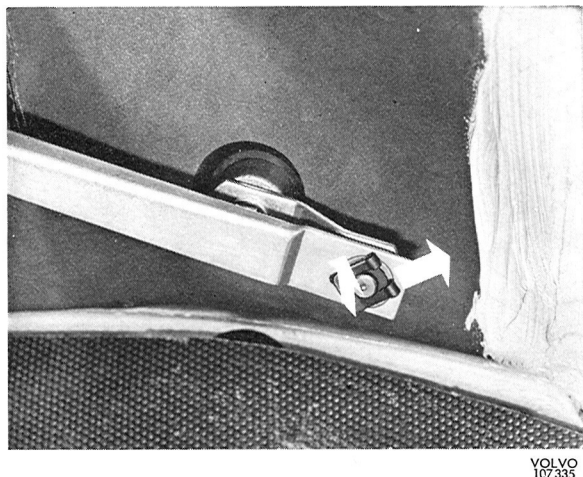

Fig. 3-138. Removing lock
1. Remove the drive link from the output arm on the wiper motor after having first removed the lock device, see Fig. 3-138.